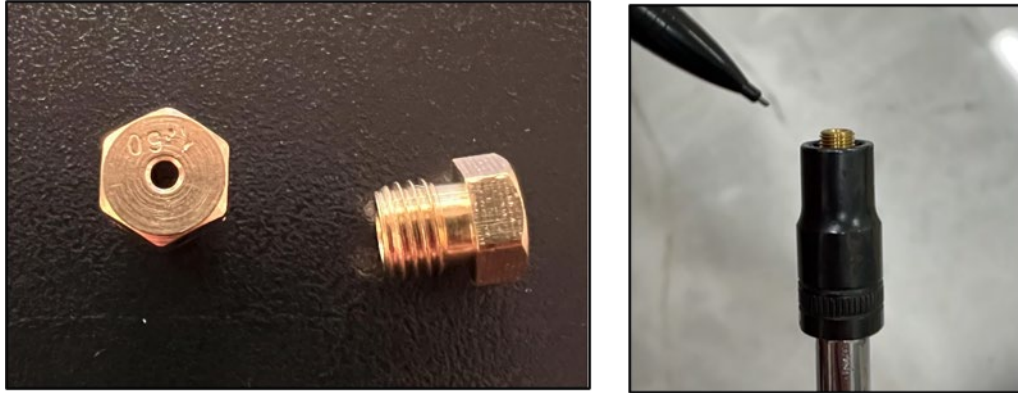

Figure 24 Natural Gas Conversion Kit
The conversion process (orifice change-out) is the same for each gas. Whatever gas your burner unit is set up for, it is supplied with a conversion kit (Figure 24 left) to allow changeover to the other fuel type. The customer must provide the required LP gas inlet or NG flex line.
- Use a shallow socket to ensure enough threads are exposed to get it started (Figure 24 right)